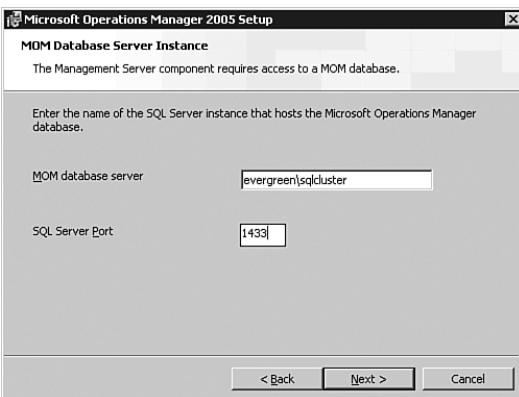

FIGURE 10.7 Specifying the SQL Server virtual instance.
2. After MOMCreatedb.exe completes successfully, install your management servers by specifying the SQL Server instance in the MOM installation program, shown in Figure 10.7.